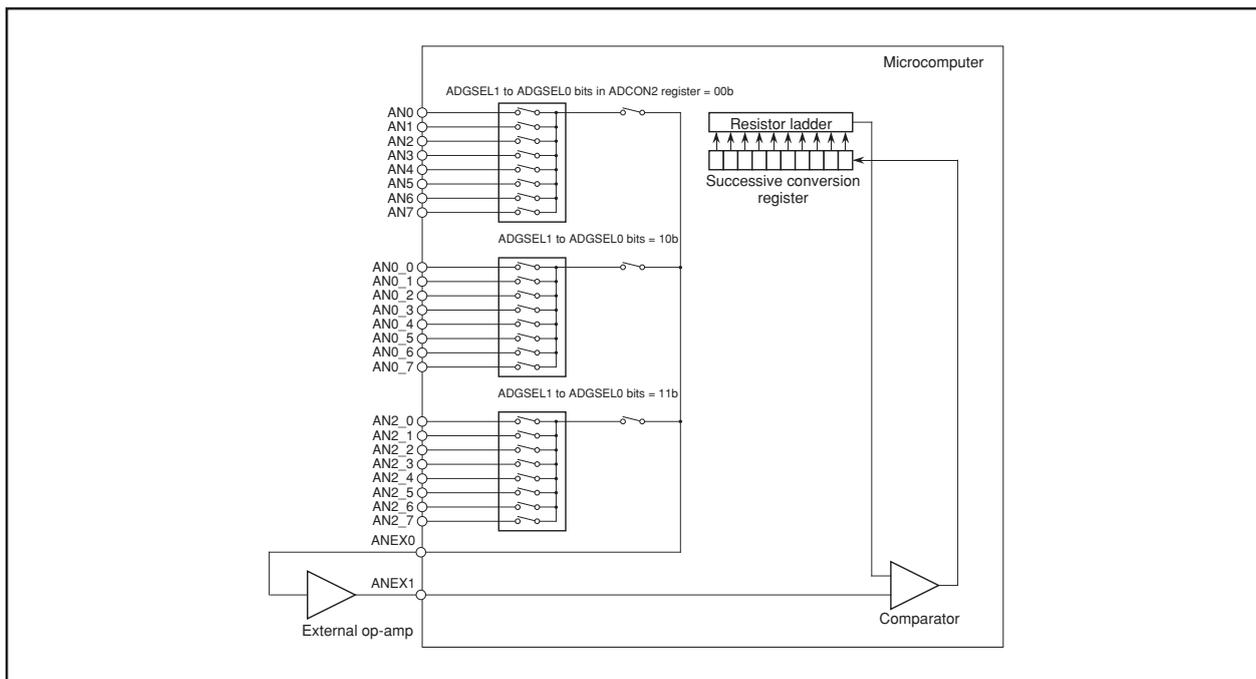

Figure 15.9 External Op-Amp Connection
Multiple analog inputs can be amplified using a single external op-amp via the ANXE0 and ANEX1 pins. Set the OPA1 to OPA0 bits in the ADCON1 register to “11b” (external op-amp connection mode). The inputs from ANi ( $i = 0$  to 7) (1) are output from the ANEX0 pin. Amplify this output with an external op-amp before sending it back to the ANEX1 pin. The A/D conversion result is stored in the corresponding ADi register. The A/D conversion speed depends on the response characteristics of the external op-amp. Figure 15.9 shows an example of how to connect the pins in external operation amp.